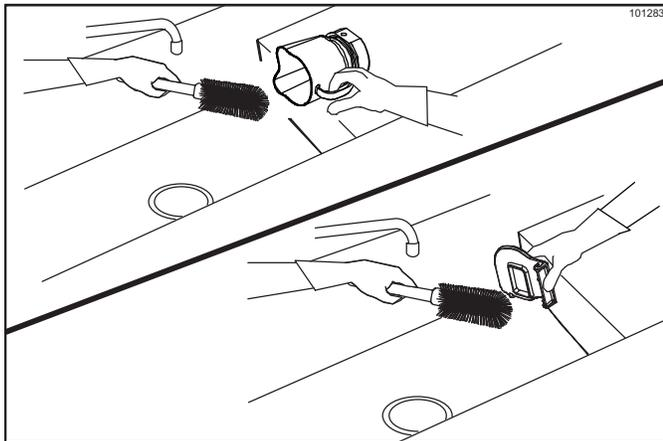

Figure 6-6
- Wash the parts in the sink. (See Figure 6-6.)